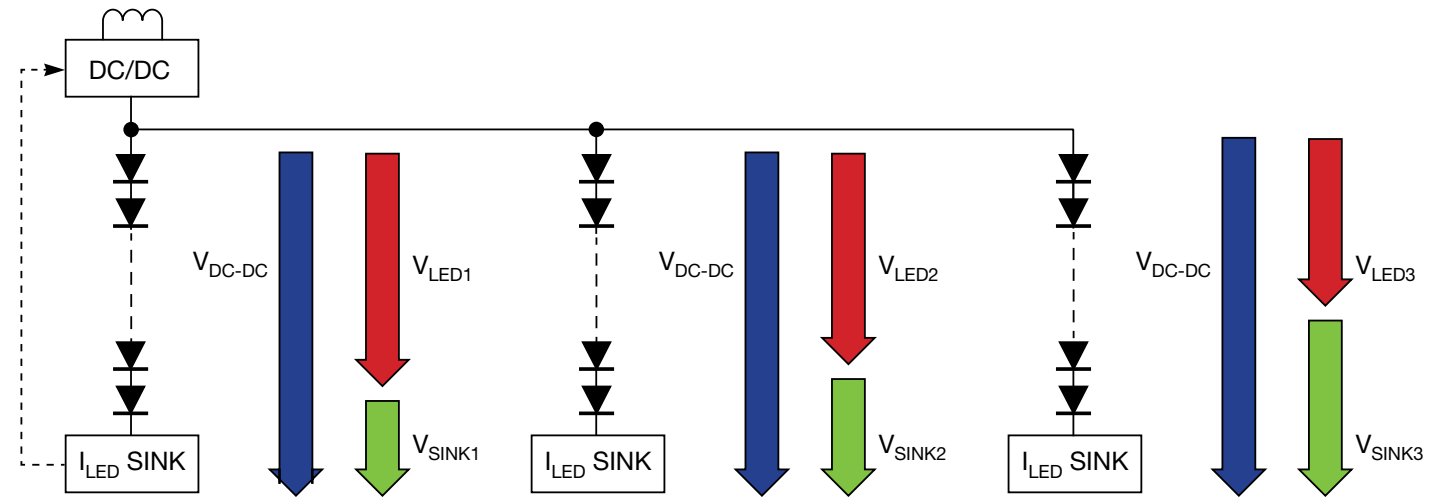

Figure 4 With one dc/dc converter serving multiple LED strings, SMPS voltage is not optimized.
--transient response of ~30 mV (Figure 4).
A more radical approach to reducing BOM cost can be found in the multi-string, single-dc/dc-converter topology (**Figure 4**). The drawback of this approach is that the SMPS voltage must be regulated higher than the LED string with the highest forward voltage, which means that it operates at a higher voltage than is necessary for those strings with a lower forward voltage. As a result, the I_{LED} sink must dissipate the excess power from the strings with lower forward voltage, generating heat that must be conducted away from the circuit board and resulting in reduced power efficiency.